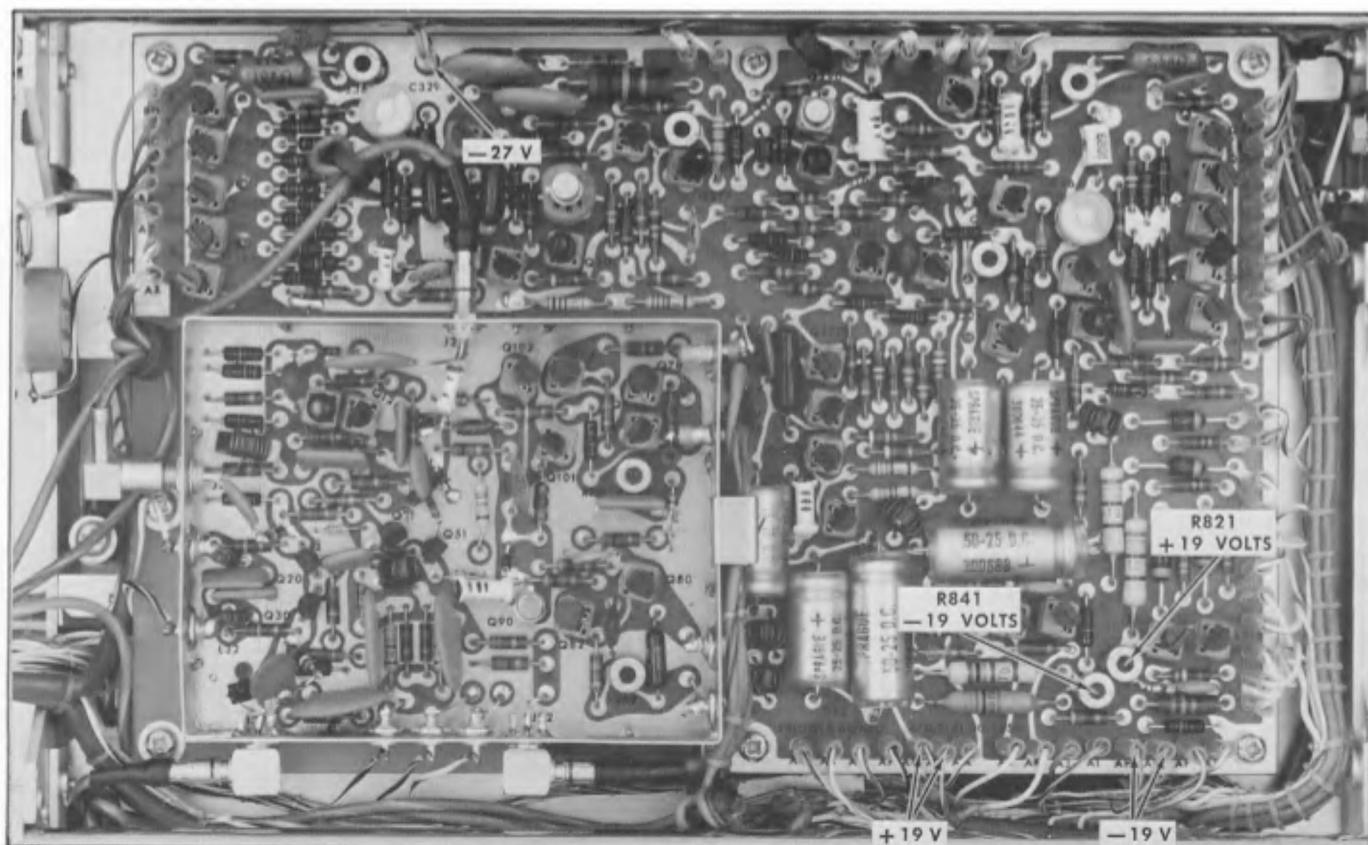

Fig. 7-4. Location of power supply test points and adjustments, right side of instrument, on Trigger Board Assembly.
**2. Check or Adjust —19 Volts****①**
a. Use the equipment setup as shown in Fig. 7-3. Connect the 1× probe to the —19 Volt test point shown in Fig. 7-4. Set the TRIG SENSITIVITY control fully counterclockwise after the Indicator oscilloscope trace is known to be present.
**3. Check or Adjust +19 Volts****①**
a. Connect the 1× probe to the +19 Volt test point shown in Fig. 7-4.
a. Connect the 1× probe to the —27 Volt test point shown in Fig. 7-4.